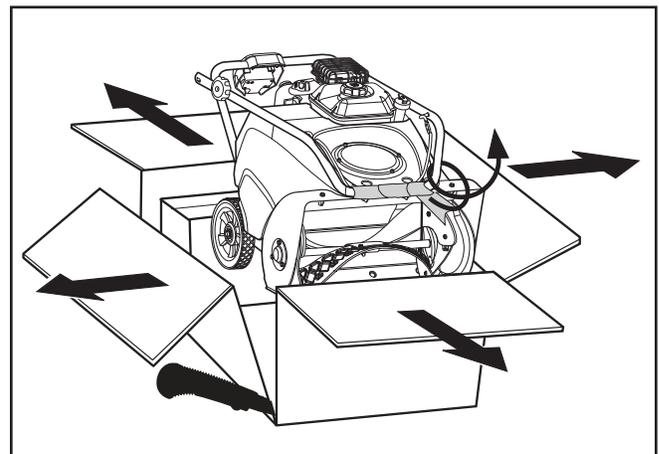

Figure 4
1. See Figure 4. Cut all four corners of carton from top to bottom.